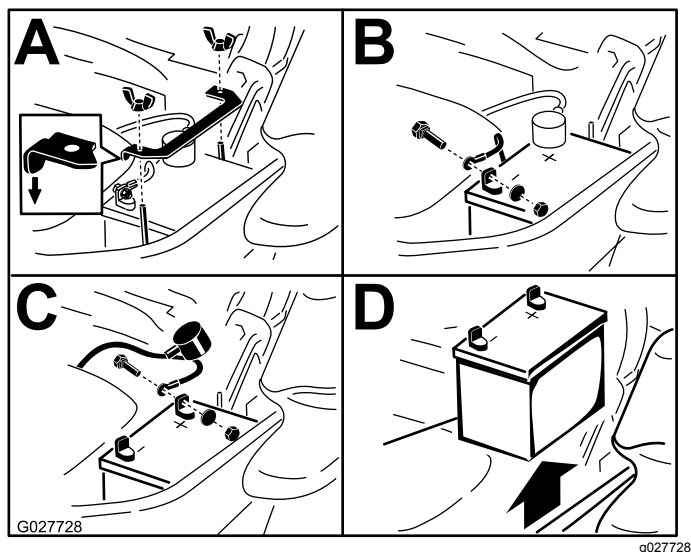

Figure 56
3. Remove the battery as shown in Figure 56.
Note: Position the battery in the tray with the terminal posts opposite from the hydraulic tank (Figure 56).